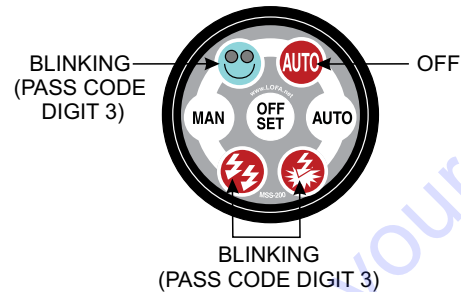

Figure 37. Pass Code Digit 3
5. Press the **OFF/SET** button (Figure 37) one last time this will enter the value zero for pass code digit 3 into the controller.